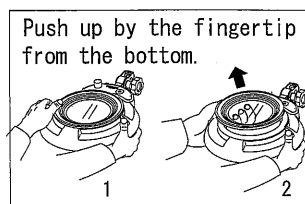

Fig. 6
- ② Adjust to the desired tightening force with the lower grip knob shown in Fig.6.
- To remove the lens, push its rubber frame rim from below with your fingertips as shown in figure 6.